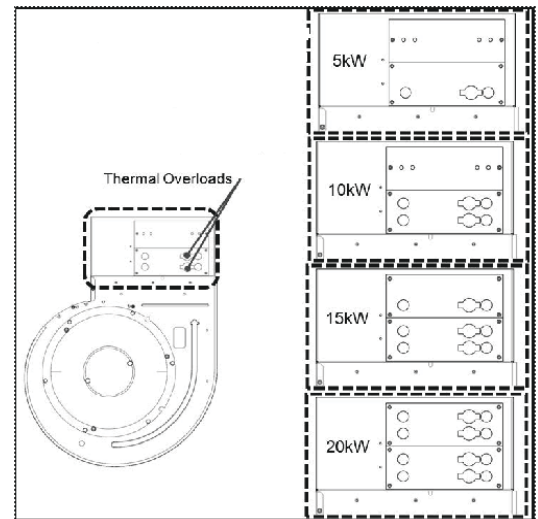

Fig. 6 – Thermal Overloads Cut-Outs
5. In preparation for heater element installation, orient the heating elements with thermal overloads (cut-outs) as shown in Fig. 6. This will ensure the heater elements are exposed to airflow.
IMPORTANT: If only one heating element is being installed, install it into the position closest to the blower wheel. Cover remaining opening with one of the cover plates removed in step 4 (see Fig. 6).